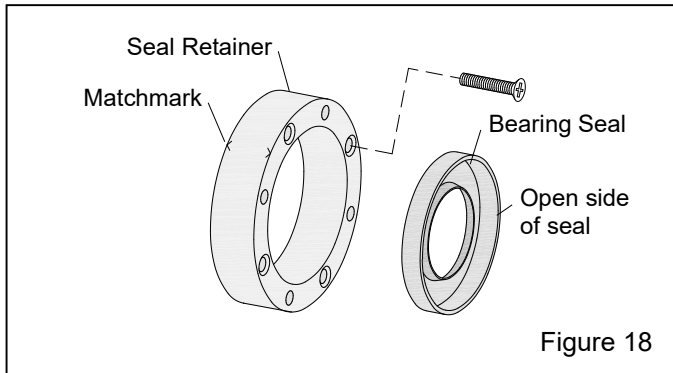

**Figure 17**
**Note the matchmarks (alignment marks) shown in Figure 17. During assembly, use the marks to align mating parts on the body, brake housing, bearing seal retainer, and end plate.**
**9.2 Disassemble Rear End Assembly – Figure 17**